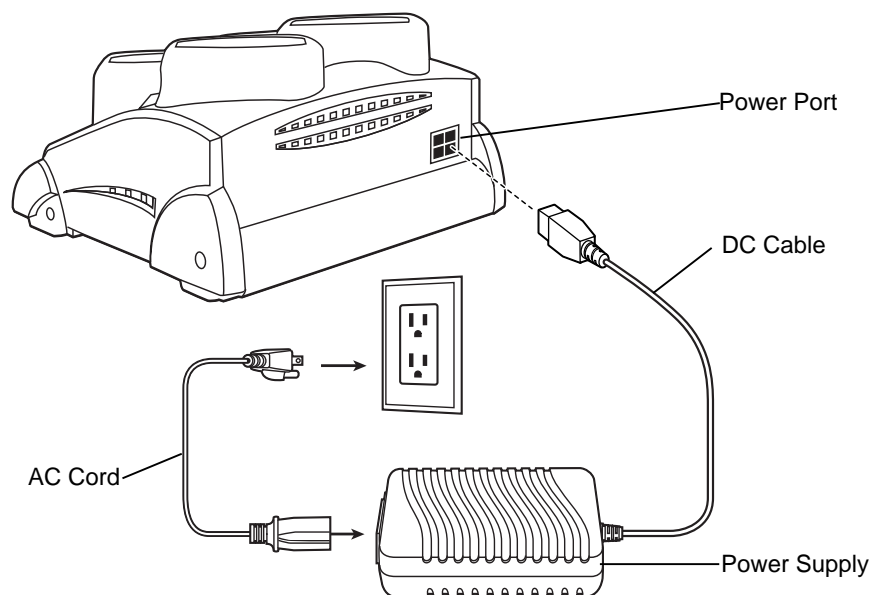

Figure 2-17 Four Slot Spare Battery Charger Power Connection
1. Connect the charger to a power source as shown in Figure 2-17.